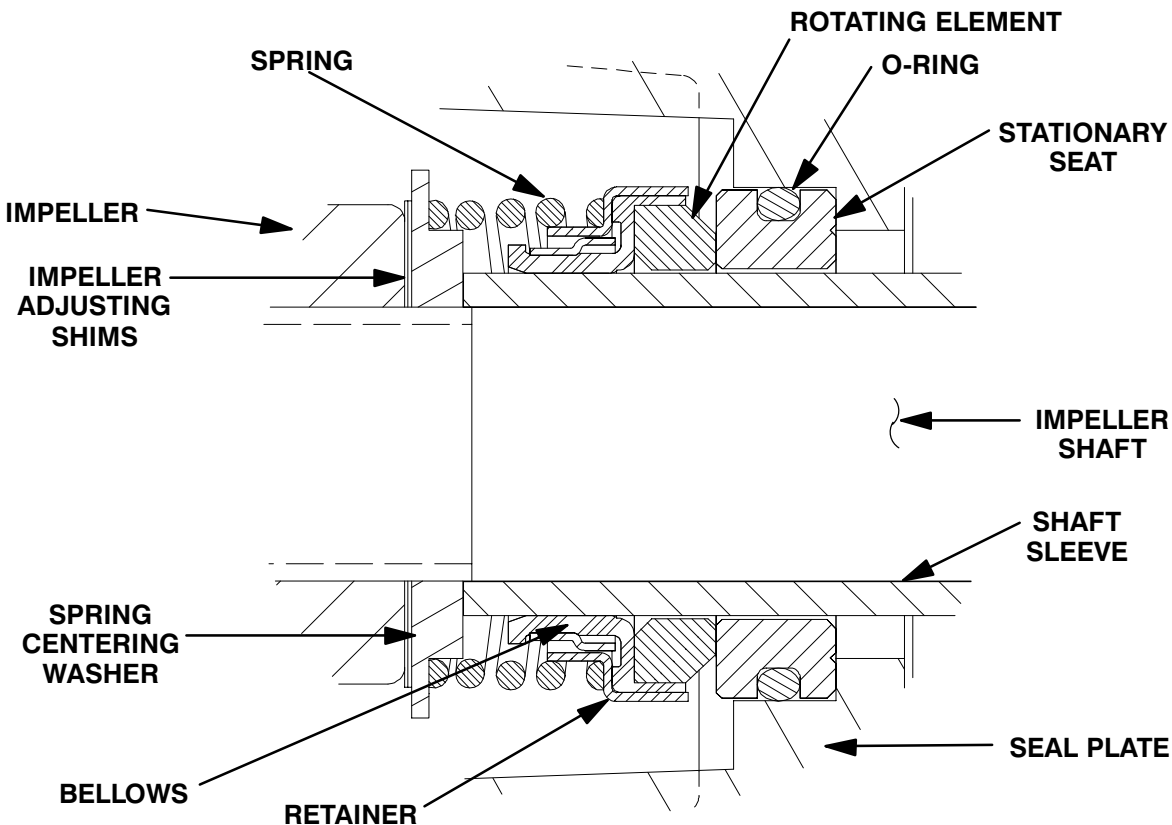

Figure 3. 25285-855 Seal Assembly
To ease installation of the seal, lubricate the shaft sleeve (13) with water or a very **small** amount of oil, and apply a drop of light lubricating oil on the finished faces. Assemble the seal as follows (see Figure 3).